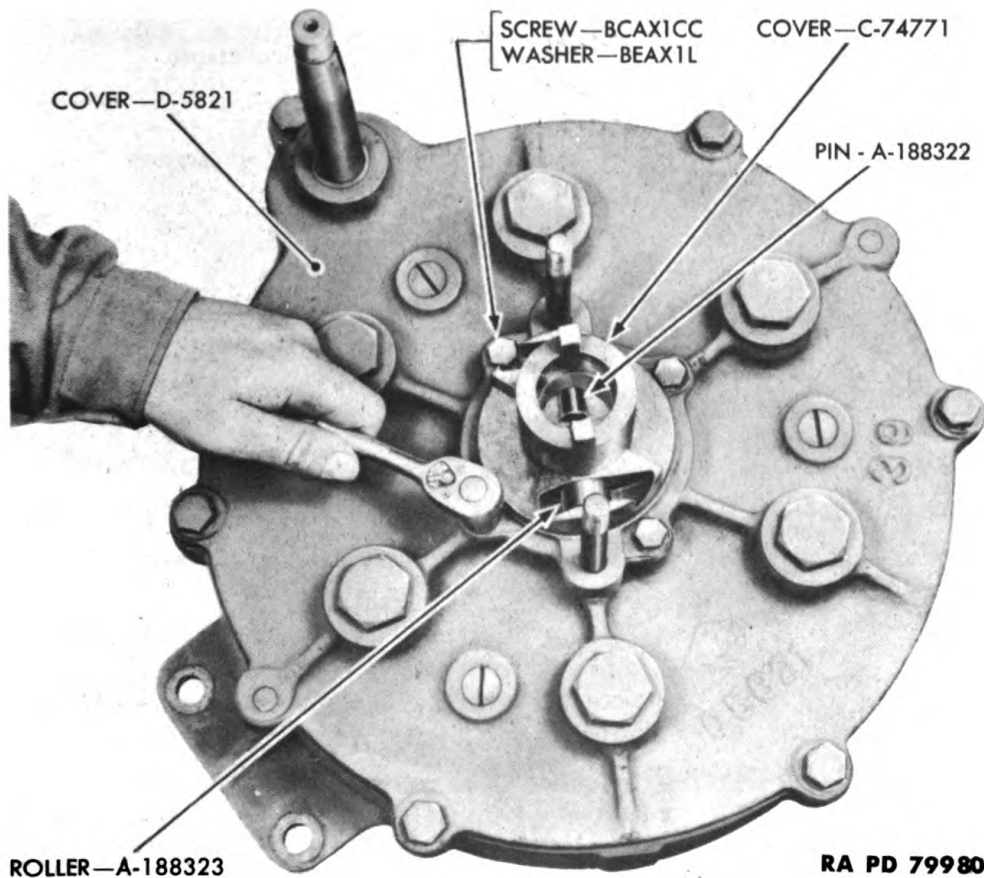

Figure 174—Removing Elevating Brake Drum Shaft End Cover
(4) Remove four screws BCAX1CC and washers BEAX1L from cover C74771. Remove cover. Pins A188322 and rollers A188323 come away as part of cover (fig. 174).